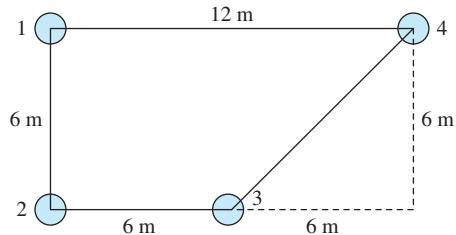

FIGURE P9.42 Asymmetrical bundled conductors' configuration.
- 9.42** (A)* Calculate the equivalent radius of the bundled conductors shown in Figure P9.42. Each subconductor's radius is 20 cm.